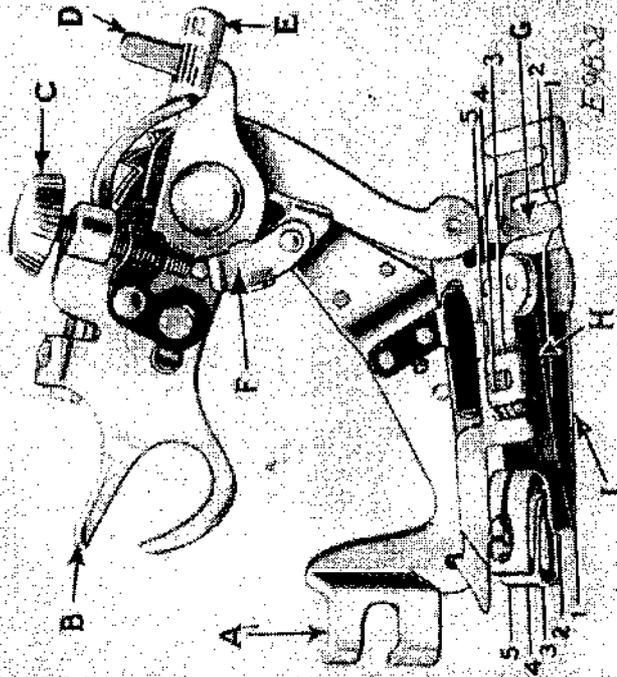
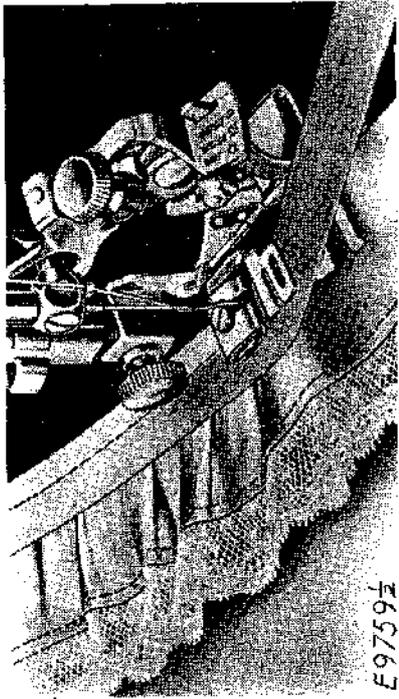

FIG. 42. THE RUFFLER AND ITS PARTS.
FIG. 45.
Lines 1, 2, 3, 4 and 5 in Fig. 42 indicate where the material is to be placed for various operations, as follows:
Refer to Fig. 42 when inserting the material in the ruffler.
The names and uses of the principal parts of the ruffler are as follows, see Fig. 42:
Raise the adjusting lever (E) and move it to the left so that the projection (D) will enter the slot marked "1" in the adjusting lever (E) when the lever is released. The ruffling blade will then move forward and back once at every stitch. Insert the material to be ruffled between the two blue blades, following the line 2 in Fig. 42. Draw the material slightly back of the needle, lower the presser bar and commence to sew.
2 (Fig. 42). Place the garment to which the ruffle is to be attached, under the separator blade, following the line 1 (Fig. 42). Proceed the same as for gathering.
Insert the material to be ruffled between the two blue blades, following the line 2 (Fig. 42). Place the garment to which the ruffle is to be attached under the separator blade, following the line 1 (Fig. 42). Place the material for the facing over the upper blue blade, as shown in Fig. 45, following the line 3 (Fig. 42). The facing may be straight or bias material. If the facing is to be on the right side of the garment, place the garment and the ruffle so that the wrong sides are together. If the
Insert the material to be ruffled between the two blue blades, following the line 2 (Fig. 42). This
The material for piping must measure about $\frac{1}{4}$ inch wide when folded in the centre and is usually cut on the bias. Place the piping material in the ruffler, following the line 4 (Fig. 42) with the folded edge of the piping to the right. The material to which the piping and ruffling are to be sewn should be folded on the edge and inserted in the ruffler, following the line 5 (Fig. 42).
marked "6" in the adjusting lever when the lever is released. The ruffling blade will then move forward and back once at every six stitches. To adjust the ruffling blade to make a plait once at every twelve stitches, place the adjusting lever (E) so that the projection (D) enters the slot marked "12" in the adjusting lever. Insert the material to be plaited between the two blue blades, following the line 2 (Fig. 42). The size or width of plaits is regulated by the adjusting screw (C) and the